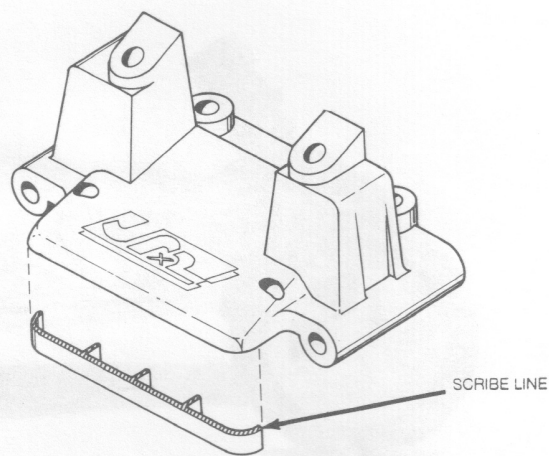

FIG 1
8. Grind off front lip from bottom of front bulkhead. Refer to FIG. 1